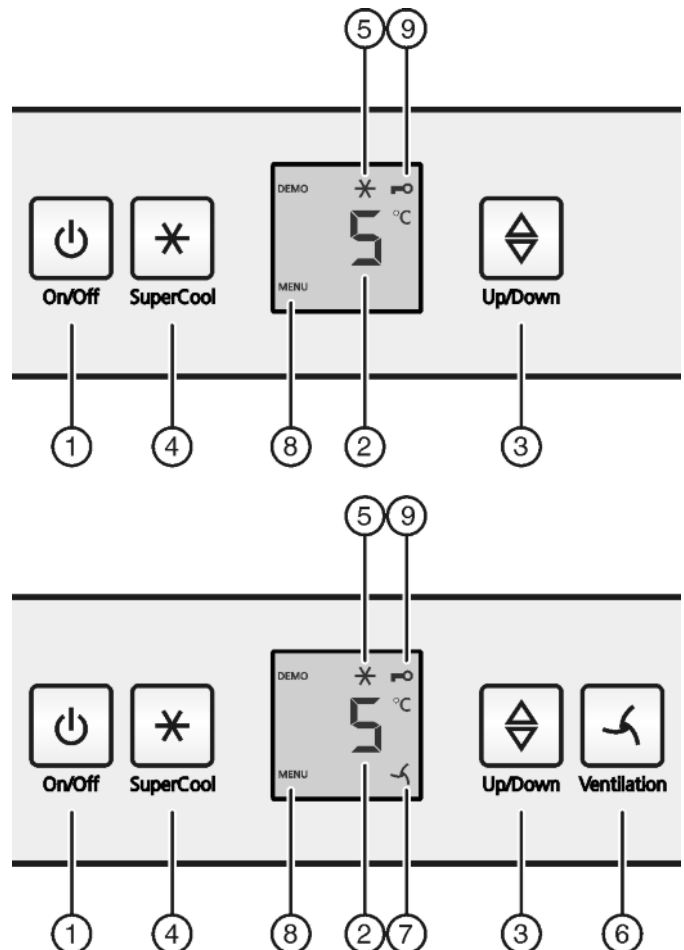

Fig. 2
- ▶ Press the On/Off button *Fig. 2 (1)*.
- ▶ Press the SuperCool button *Fig. 2 (4)* for about 5 seconds.
- ▷ The Menu symbol is shown on the display, *Fig. 2 (8)*.
- ▶ Confirm briefly with the SuperCool button *Fig. 2 (4)*.
- ▷ The child lock symbol, *Fig. 2 (9)*, lights up on the display.
- ▶ Briefly press the On/Off button *Fig. 2 (1)*.
- ▶ Call up temperature function: press the setting button *Fig. 2 (3)*.
- ▶ Change the temperature in 1 °C steps: Press the setting button *Fig. 2 (3)* until the required temperature is indicated in the temperature display.
- ▶ Briefly press SuperCool button *Fig. 2 (4)*.
- ▷ The SuperCool symbol *Fig. 2 (5)* lights up in the display.
- ▷ The SuperCool symbol *Fig. 2 (5)* goes out in the display.
- ▶ Briefly press the fan button *Fig. 2 (6)*.
- ▷ The fan symbol *Fig. 2 (7)* shines.
- ▷ The fan symbol *Fig. 2 (7)* goes out.